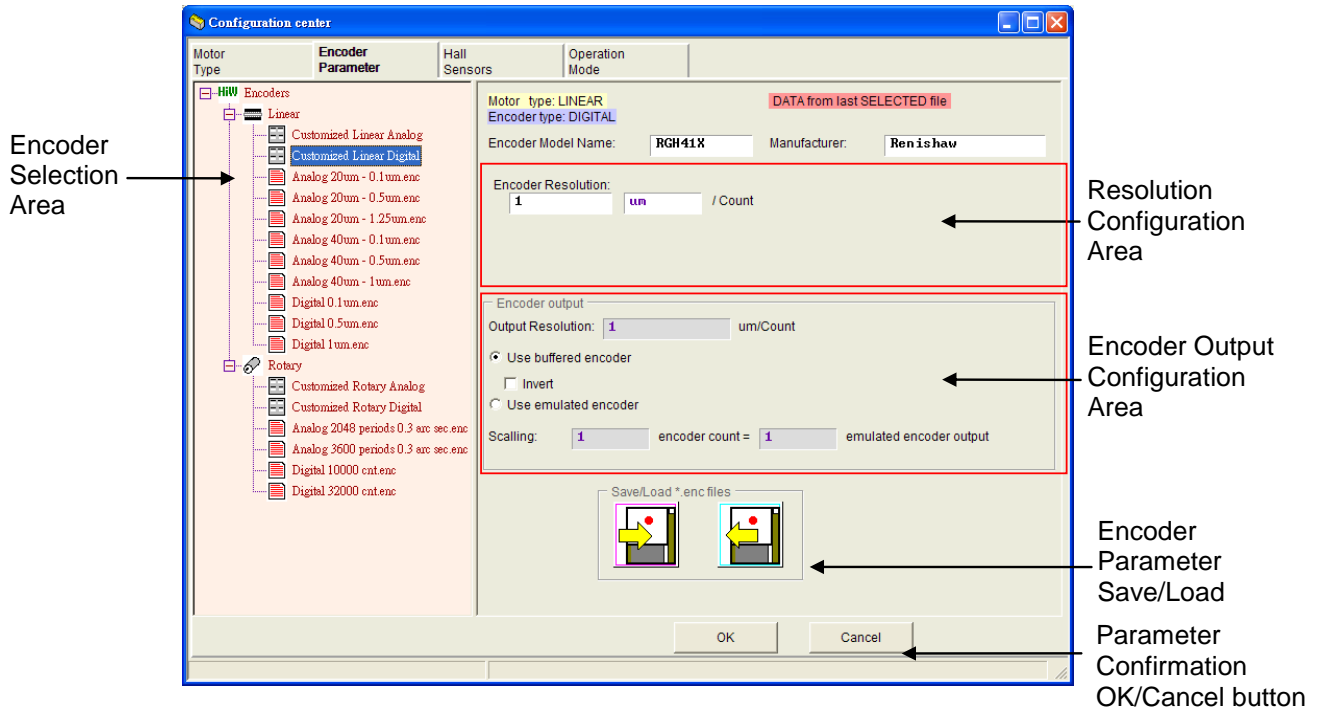

Figure 4-13 Window of Encoder Parameter Configuration
Usually the drive receives encoder feedback position to perform servo control. The window of the encoder parameter configuration is shown as Figure 4-13 and the user needs to select the correct type of encoder or set correct parameters. In this configuration window there is not only a list that collects all commonly used encoders for the user, but also provides a customized encoder configuration that the user can input parameters for different encoder manufacturer. For example to use the linear encoder click Linear category on the list and select Customized Linear Analog to open the configuration area for input of the parameters of encoder for their specification. After configured, use save function to make an encoder parameter file (*.enc) in disc for later usage.
- 4.2.2.1 Linear digital type: For example using HIWIN standard magnetic encoder PM-B-XX-XD-S-XX or Renishaw RGH41X series digital encoder, the user only has to select Digital 1um in the encoder selection area as shown in Figure 4-13. For different encoders the user also can select the correct type according to the encoder resolution from the list. If there is no corresponding resolution, configure it in the window of customized encoder. Please see the section 4.2.2.5.
- 4.2.2.2 Linear analog type: For example using Renishaw RGH41B analog encoder with grating period of 40um interpolated to 1um resolution, the user could select Linear then Analog 40um-1um item in the encoder selection area as shown in Figure 4-13 to complete configuration. To use different multiplier factor or resolution, user has to select default item or configure it in the window of customized the encoder parameter. Please see the section 4.2.2.6.
- 4.2.2.3 Rotary digital type: For example using HIWIN FACXX4001 AC servo motor with encoder of 10000 count/rev resolution, the user can select Rotary then Digital 1000 count/rev item in the encoder selection area as shown in Figure 4-13 to complete configuration. For other HIWIN FRAC series AC servo motors please refer to table 4-1. If no corresponding resolution could be found, configure it in the window of customized encoder parameter. Please see the section 4.2.2.7.
- 4.2.2.4 Rotary analog type: For example using HIWIN TMS32 torque motor integrated with rotary analog encoder with 3600 sin waves per revolution interpolated to 0.3 arc-sec resolution, the user can select Rotary then Analog 3600 periods 0.3 arc-sec item in the encoder selection area as showing Figure 4-13 to complete the configuration. For other rotary HIWIN TMS series torque motors please refer to table 4-2. If using different multiplier factor or resolution, user also can configure it in the window of customized encoder. Please see the section 4.2.2.8.